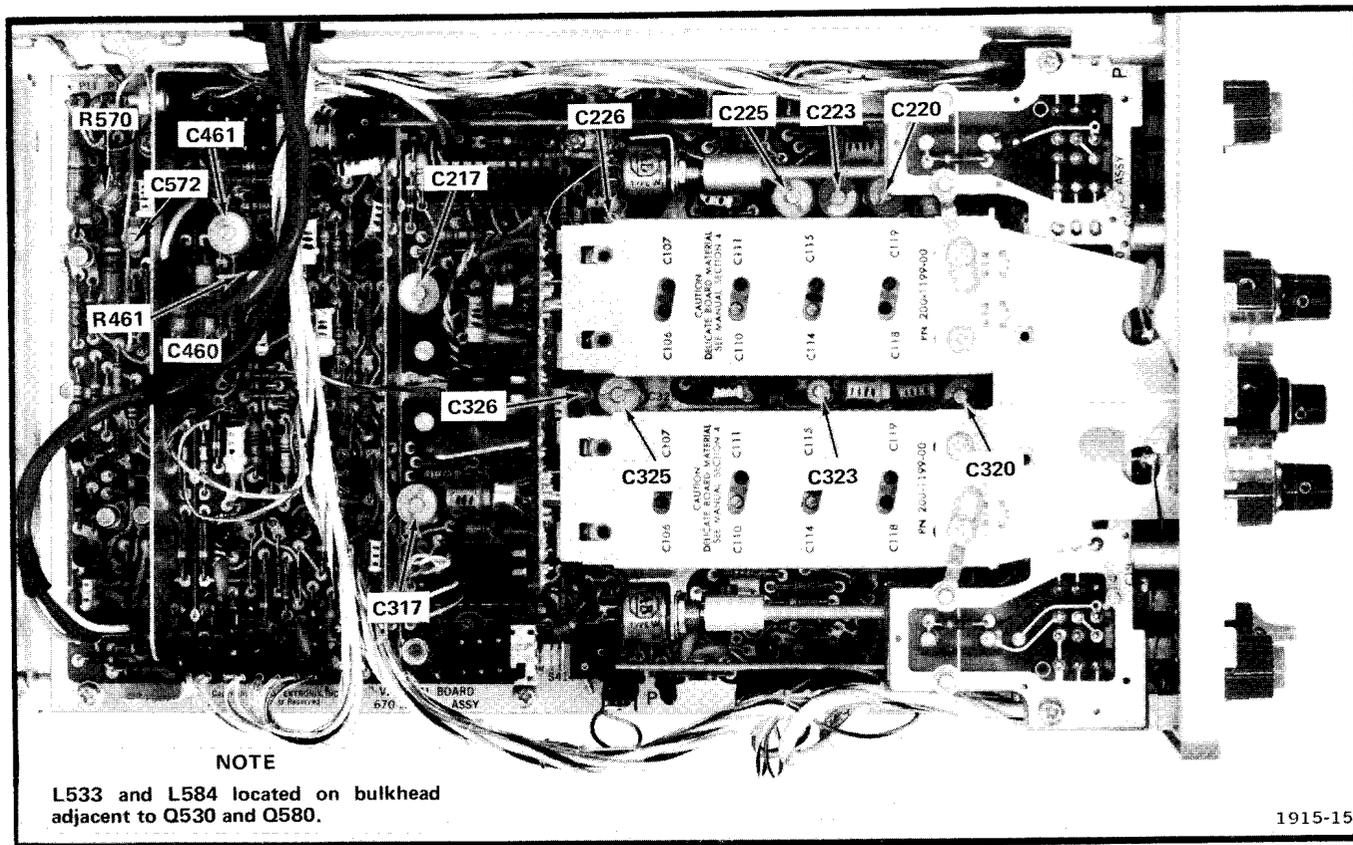

Fig. 5-6. High-frequency Compensation Adjustments.
f. CHECK—CRT display for aberrations typically less than +4%, -4%, a total of 4% peak to peak within the +20°C to +30°C temperature range. Set magnified sweep to .02 μs/DIV and check for a risetime of 14 ns (0.7 division). If risetime is out of specification or aberrations are greater than typical values; preset R570 and C226 to midrange, L533 core centered in form, and L584 core flush with top of form (see Fig. 5-6).
m. ADJUST—C317 and C326 (see Fig. 5-6) for optimum risetime with aberrations typically less than +4%, -4%, or a total of 4% peak to peak within the +20° C to +30° C temperature range.
ac. ADJUST—Refer to Table 5-3 for the correct adjustment and tolerances. See Fig. 5-6 for adjustment locations.